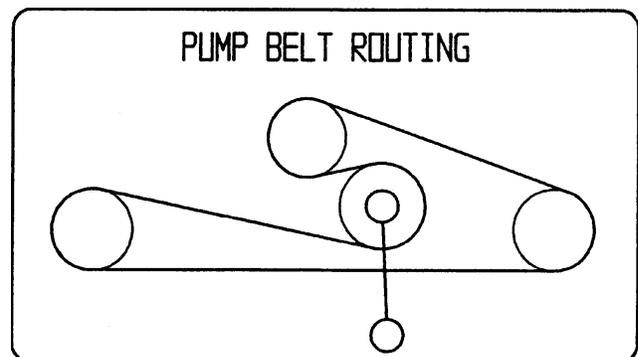

Figure 58
- Pull spring loaded idler down and remove traction belt from the engine and hydro pump pulleys (Fig. 58). Remove belt between pulleys.
- Install new belt around engine and hydro pump pulleys (Fig. 58).
- Pull spring loaded idler down and align below traction belt. Release pressure on spring loaded idler (Fig. 58).